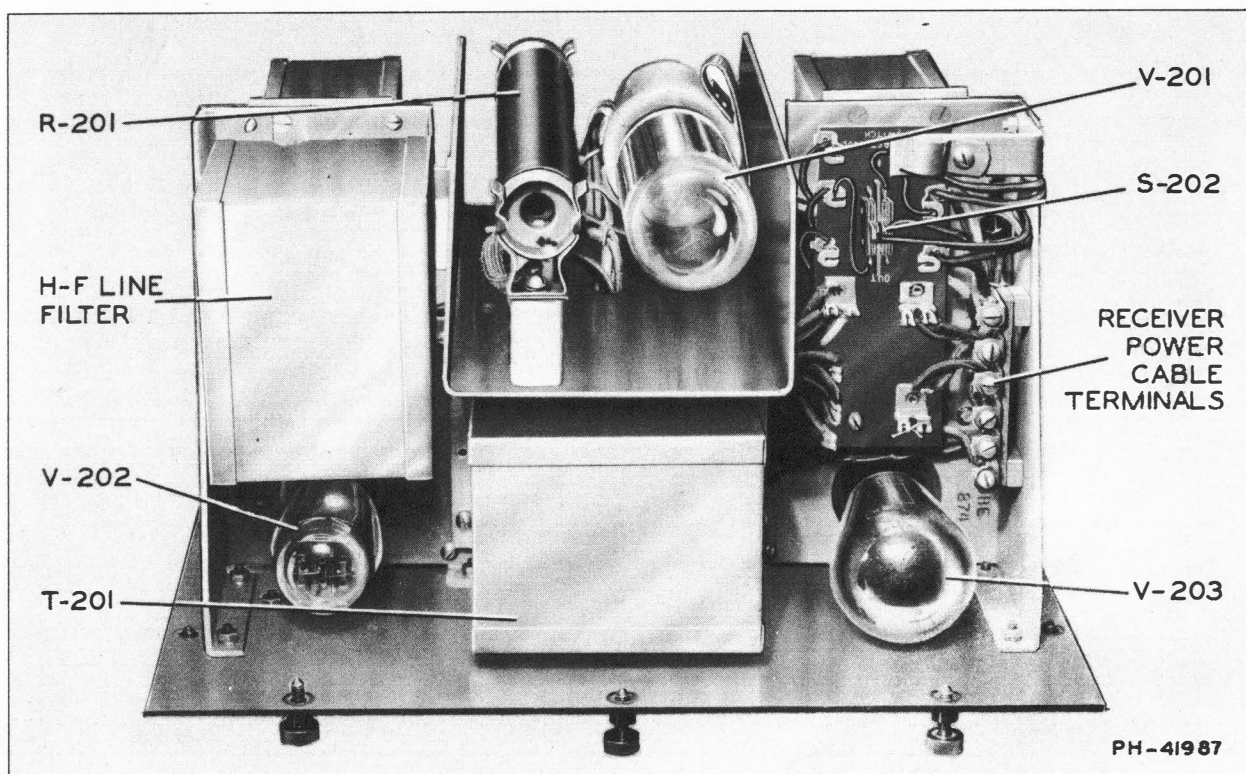

Figure 1—Power Unit CRV-20131 (Top View of Chassis)
- 6.4-1 The wiring between units is shown in Figure 16. At installation, the supply voltage should be measured or otherwise ascertained and the primary taps of the power transformer (T-201) shifted if necessary to comply with the nominal line rating. These taps are connected at the factory for 115 volts as indicated by the marking "115" adjacent to the terminals to which the red wires from toggle switch S-202 is connected (see Figures 1, 4 and 21.) If the supply voltage is nearer 110 or 120 volts than 115 volts, shift these red wires to one of the two other pairs of terminals (marked "110" and "120," respectively) as required. To eliminate as much a-c hum and other electrical interference as possible, the 110-, 115-, or 120-volt, a-c supply should be connected to the power unit by a shielded twisted pair of wires (No. 14 or larger), or run in grounded conduit as far as the bulkhead adjacent to the power unit and terminated in a junction box. In no case should transformers or other a-c equipment be located in close proximity to the receiver.
7.1-1 The tube locations are shown in Figures 1 and 16.
8.3-1 The power unit is designed for mounting underneath a table (see Figure 15). The cabinet may be permanently mounted, the chassis being removable for access to tubes, for servicing, and for cable connections. All components are mounted on the chassis or panel forming a single assembly. (See Figures 1, 4 and 7.) On the top of the chassis from left to right are located the rectifier tube, h-f line filter shield, power transformer, voltage regulator tube, resistor board and power terminals. The line filter shield at the left rear is removable for access to the line input terminals and fuses. In the center at the rear is located the current-regulator tube. Beneath the chassis from left to right are located the l-f line filter, ripple filter reactors, and ripple filter capacitor pack.
- 9.5-6 In order to make this power unit interchangeable with the one used in the RAK Series equipment, provision is made for the elimination of the current-regulator tube (Type -876) from the circuit when the power unit is used with the RAK equipment. Since the latter receiver operates at relatively low frequencies, the additional freedom from effect of line voltage variation obtained from the current-regulator tube is not needed if the line regulation is within  $\pm 10$  per cent. In the interest of conserving primary supply current, its use with the RAK Series equipment is not recommended under normal circumstances. It must, however, be used with the RAL Series equipment. A switch, therefore, is provided inside the unit to permit operation with or without this tube. (See Figures 1 and 4.) This switch connects the current-regulator tube and switches the power transformer primary for operation in series with the current-regulator tube or directly connected to the line filter. (See paragraph 10.2-3.)